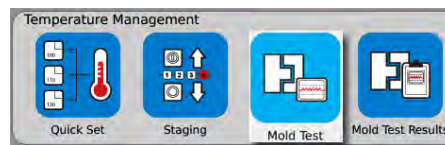

Figure 9-1 Quick Set Button
1. On the Neo5 Home screen, select the Mold Test button (refer to Figure 9-1).